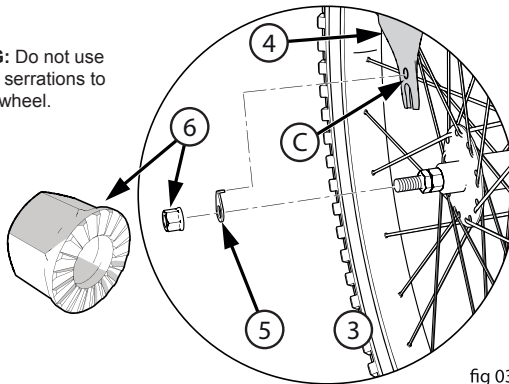

fig 03
3. Set the Front Wheel (3) into the front fork (4) (fig 03).
4. Install wheel retainers (5) making sure the tabs are in the Fork Retainer Holes (C).
5. Attach the front wheel with the Axle Nuts (6).
**WARNING:** Do not use Nuts (6) without serrations to attach the front wheel.